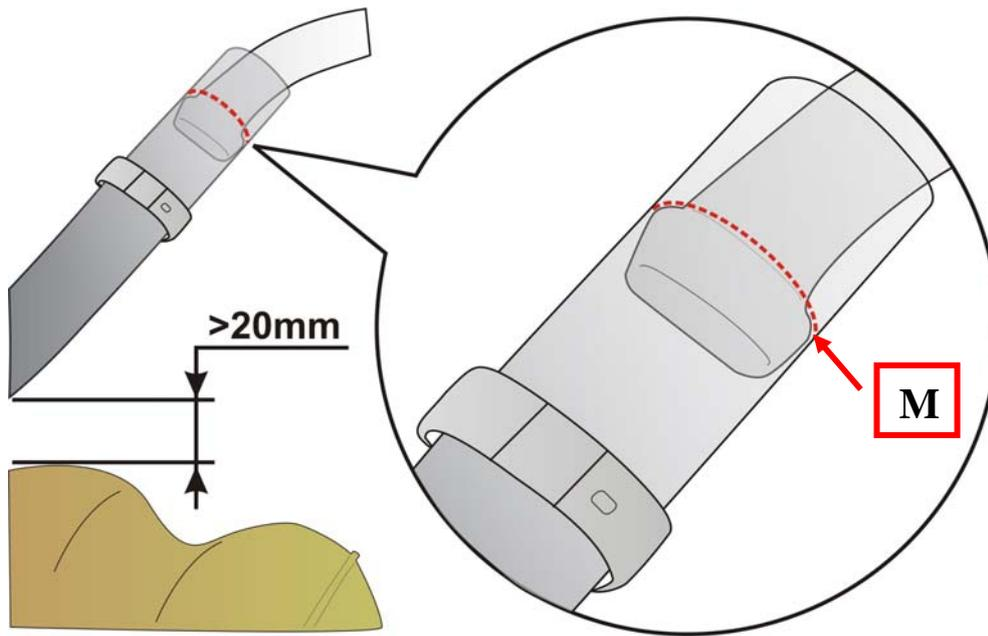

Fig.10
- Feel the hose to locate the position of the upper edge of the connector (**M-Fig. 10**).